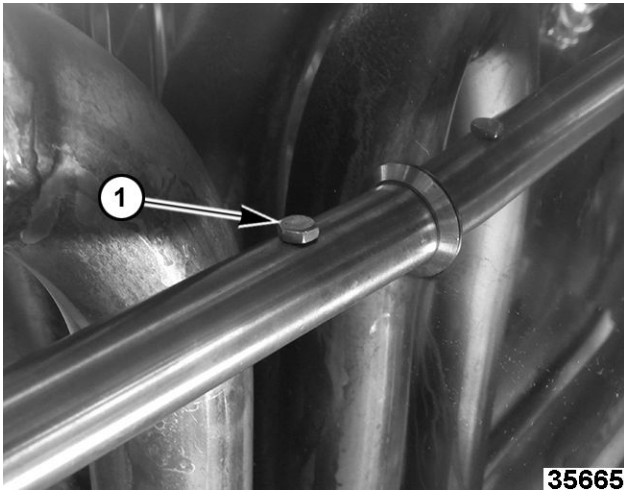

Fig. 61
4. Remove water inlet pipe mounting screw (1, Fig. 61) to remove pipe.